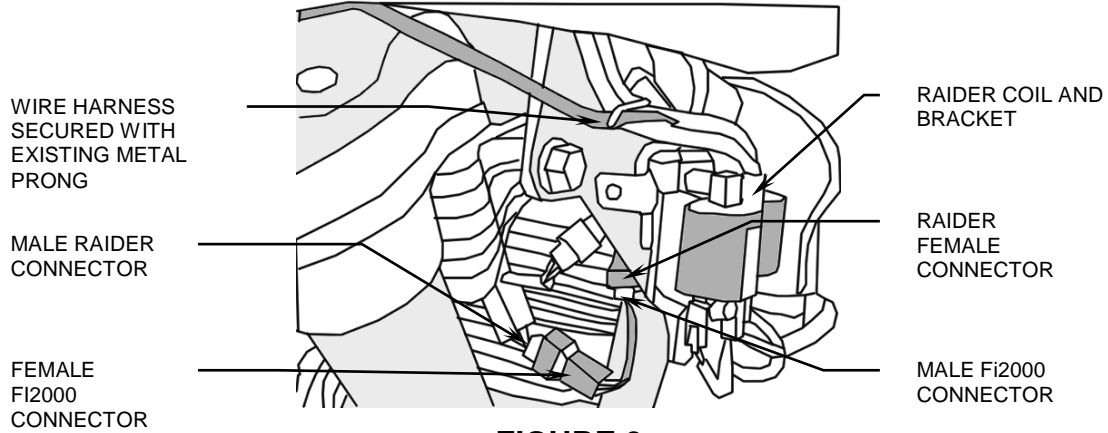

FIGURE 2
3. Feed the remaining portion of the wire harness forward and down through the coil bracket opening, see Figure 2. Locate the white Raider 6-pin connector behind the coil-mounting bracket; disconnect this connector.